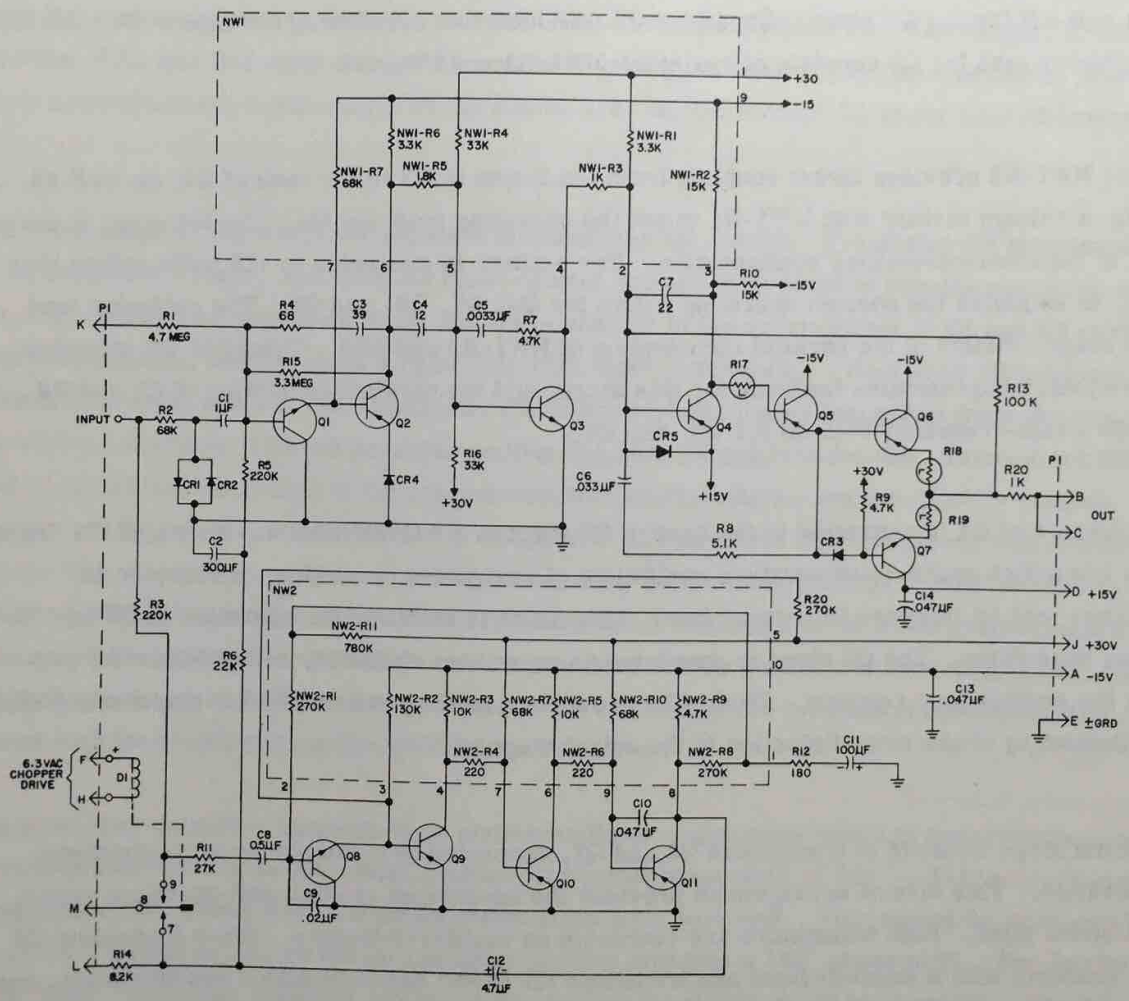

Figure 1.5. 0.6.0615 Amplifier Card, Simplified Schematic
Figure 1.5 is a simplified schematic diagram of the 6.615 Amplifier. The patch panel summing junction (B) of the operational amplifier is connected to the INPUT terminal of Figure 1.5. The ac components of the input signal are applied to the base of transistor Q1 through R2 and C1. The dc components of the input signal are connected through R3 to the input of the stabilizer section. Two reverse-connected diodes (CR1 and CR2) are connected from the input to ground to limit the charge of C1 should an overload occur. This feature allows the amplifier to recover rapidly following an overload condition. The voltage at this point is normally less than the diode conduction point.